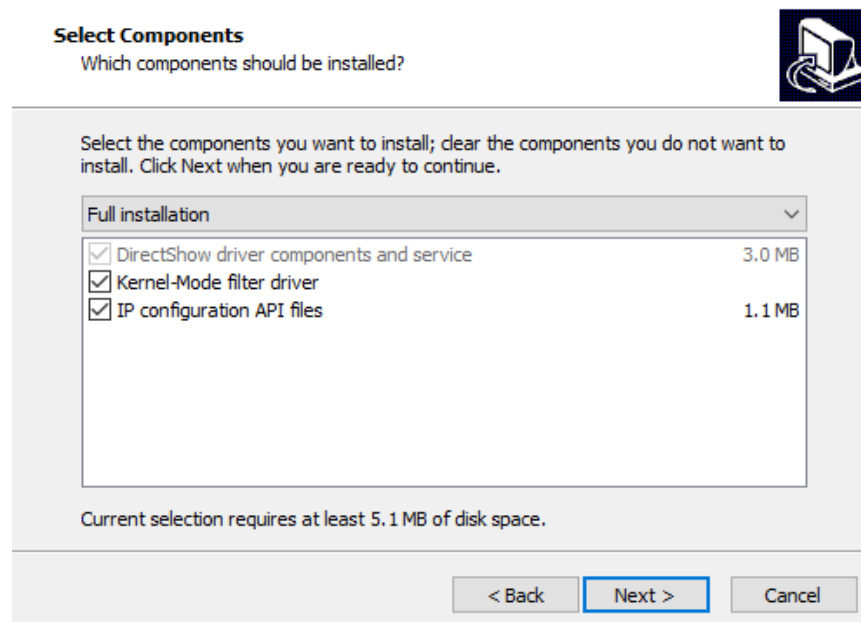

Figure 2.8: Options selection in Ethernet Camera driver installation
2. In the Select Components windows, it is possible to select different options (Fig. 2.8):
Note: At the same time as the driver it is possible to install 2 options (Fig. 2.8):